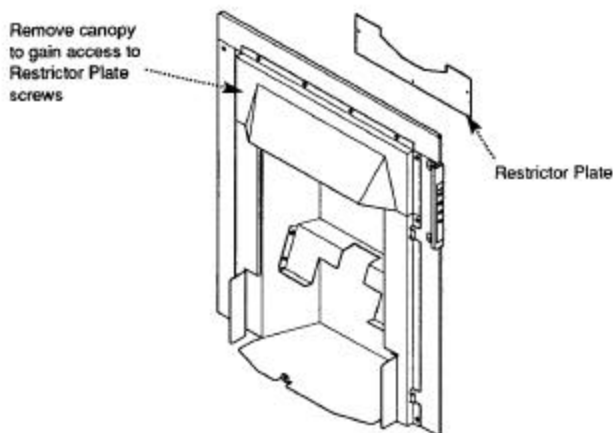

Fig. 5
3. The restrictor plate must be removed from the appliance (Fig. 5). Remove the fire canopy to gain access to restrictor plate screws. Remove the restrictor and replace the canopy taking care not to damage any painted surfaces.
2. **Remove the restrictor plate from the fire before fitting to this type of flue (Fig. 5).**